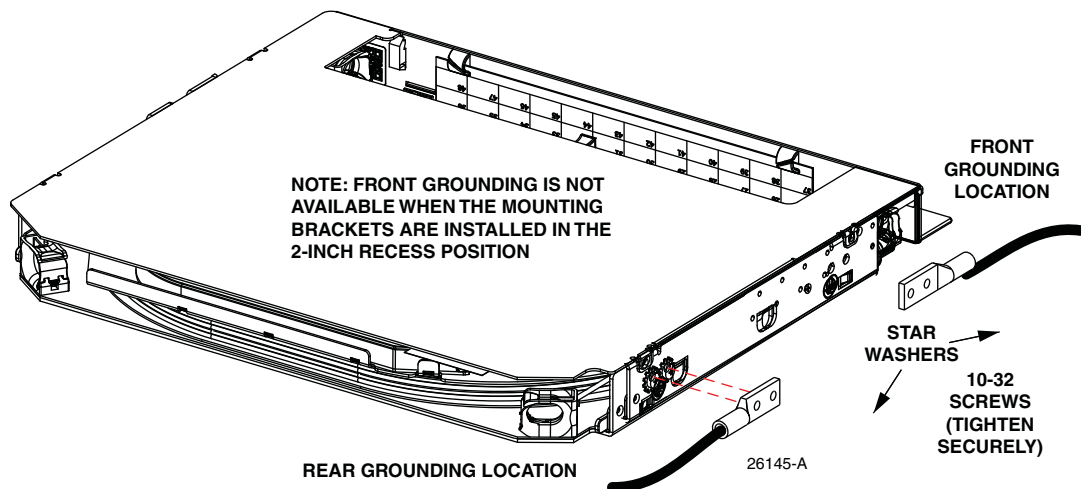

Figure 11. Grounding Rapid Fiber Panel
5. Connect a grounding wire to the panel in either of the two locations shown in Figure 11 on Page 15 using the two #10-32 screws and star washers provided. A two-hole grounding lug (not provided but shown here for reference) is recommended for this connection.